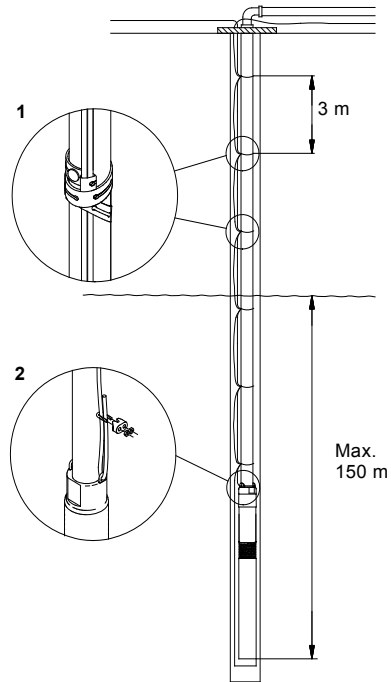

Fig. 11
Figure 11 shows a pump installation with indication of:
Cable clips must be fitted every 3 metres. See fig. 11.
**Maximum** installation depth below the static water level: 150 metres. See fig. 11.
It is recommended to secure the pump by an unloaded straining wire. See fig. 11, pos. 2. Slacken the straining wire so that it becomes unloaded and lock it to the borehole seal by means of wire locks.